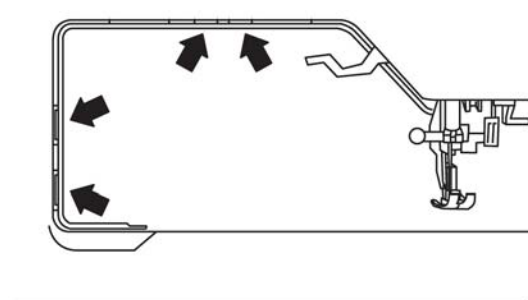

Fig. 9
- Loosen the snap connections by pressing with your thumb on the spots marked with arrows on the inner surface of the arm. (fig. 9)